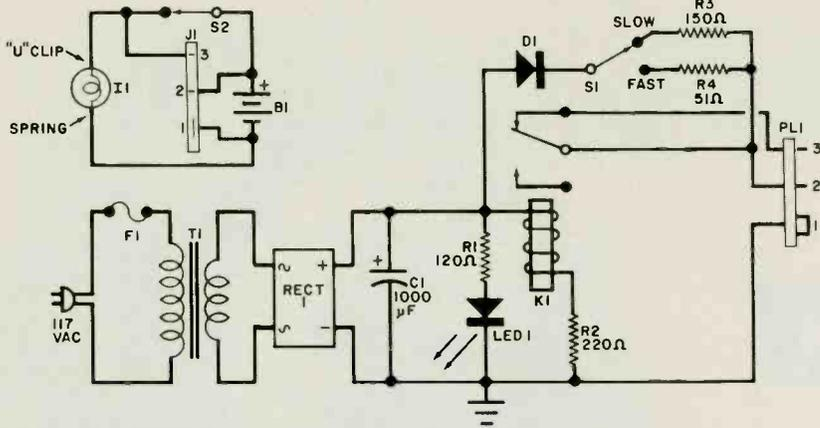

Fig. 1. Schematic of the emergency light. Power failure causes K1 to drop out, supplying power to I1.
**How It Works.** The schematic of the emergency light is shown in Fig. 1.